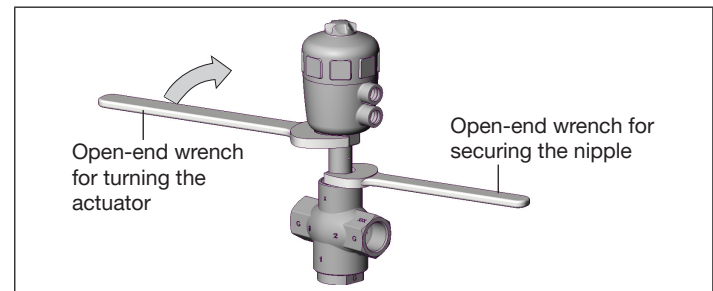

Fig. 9: Turning with open-end wrench
- Place a suitable open-end wrench on the hexagon of the actuator (see "Fig. 9").
- ▶ Turn the actuator in the specified sense of direction only (see "Fig. 9").